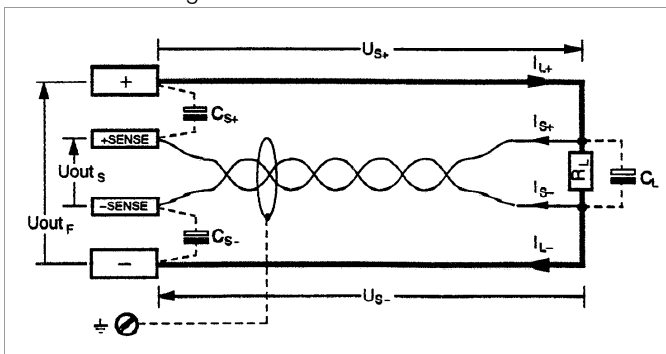

Figure 5.2 Connecting the Power Consumer for Sensing Mode Operation
- The **parameters** and **limit values** included in figure in **figure 5.2** and in the section entitled **Electrical Data** apply for operation with the sensing leads.
- Control fluctuations can be counteracted with one capacitor each ( $C_{S+}$ ,  $C_{S-}$ ) between the **SENSE** and **output terminals** (see Figure 5.2). If the **output leads are twisted**, their impedance can be reduced as well.